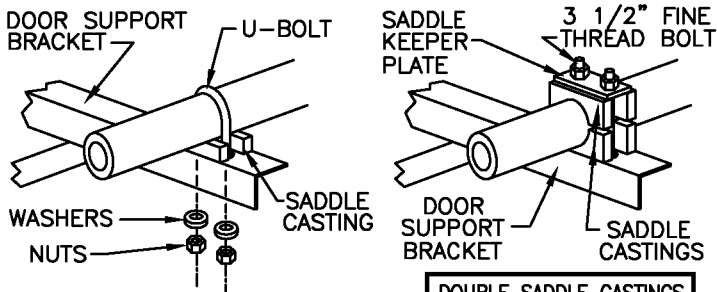

FIGURE 4
- 4A PLACE SADDLE CASTING ON DOOR SUPPORT BRACKET. LAY AXLE IN SADDLE CASTING AND PLACE U-BOLT OVER AXLE AND THROUGH SADDLE CASTING AND BRACKET AS SHOWN IN FIGURE 4.
- 4B INSTALL PLATE, WASHER AND NUTS AS SHOWN IN FIGURE 4 AND TAKE VERY GREAT CARE TO TIGHTEN BOTH NUTS VERY TIGHTLY TO A TORQUE OF 40 FOOT POUNDS. (THIS IS A 40 POUND PULL AT THE END OF A 12" WRENCH.)
- 4C ATTACH CHAIN HOIST (IF SUPPLIED) TO DOOR SUPPORT BRACKET USING (4) - 3/8" DIAMETER HEX HEAD BOLTS. POSITION ROLLER CHAIN ON PERIMETER OF BOTH SPROCKETS. ADJUST HEIGHT OF HOIST BRACKET SO CHAIN IS TAUNT (NO SLACK) AND TIGHTEN THE MOUNTING BOLTS. NOW INSTALL THE HAND CHAIN ON THE CHAIN WHEEL.